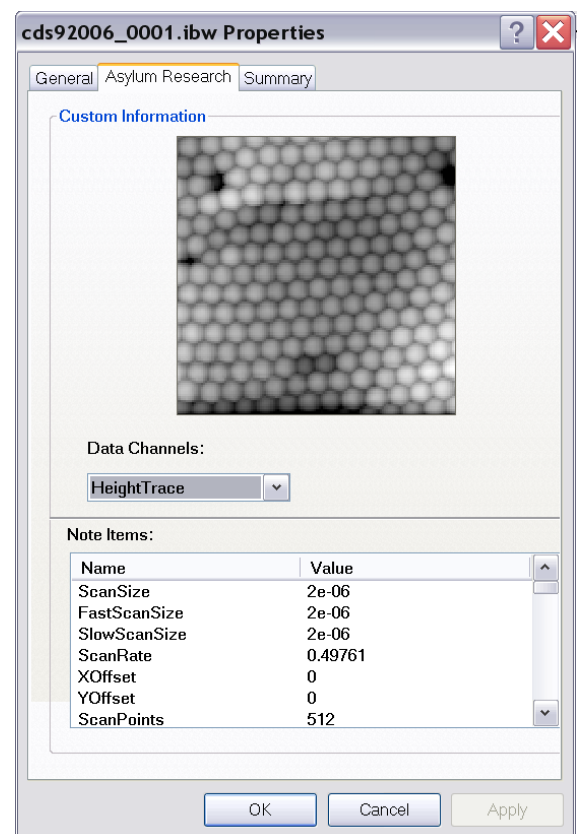

Figure 12.1.4: the AR thumbnail view lets users find pertinent information about stored data in what ever file manager you're using.
- ✓ A panel similar to Figure 12.1.4 will appear. The Asylum Research tab will have a larger thumbnail of the stored image (you can choose what channel to display), and the lower portion of the panel has the pertinent scan parameters.